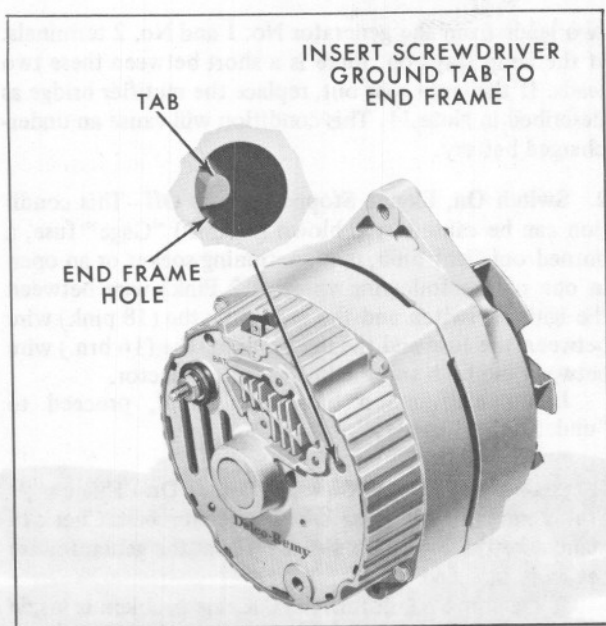

Fig. 6-9 Grounding Generator Field Winding
16. If ampere output is not within 10 percent of rated output, ground the field winding by inserting a screwdriver into the test hole, Fig. 6-9.